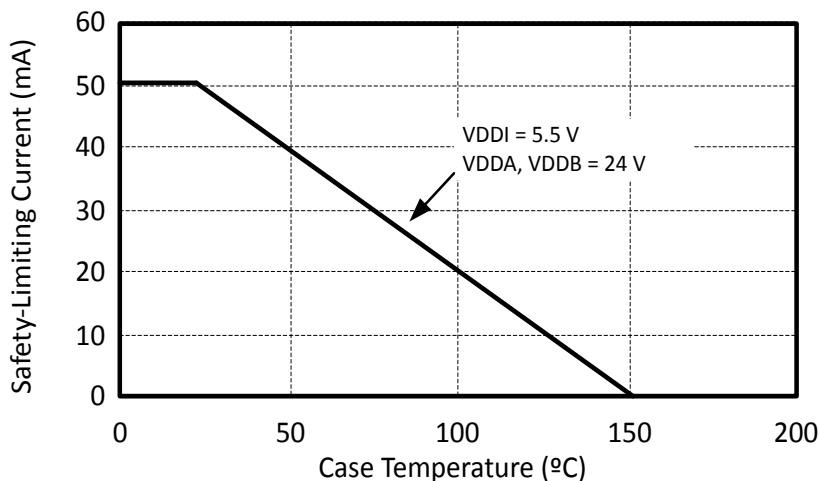

Figure 3.4. WB SOIC, NB SOIC, 14 LD LGA/QFN Thermal Derating Curve, Dependence of Safety Limiting Values with Case Temperature per VDE 0884-10
1. Maximum value allowed in the event of a failure. Refer to the thermal derating curve in Figures [Figure 3.4 WB SOIC, NB SOIC, 14 LD LGA/QFN Thermal Derating Curve, Dependence of Safety Limiting Values with Case Temperature per VDE 0884-10](#) on page 32.